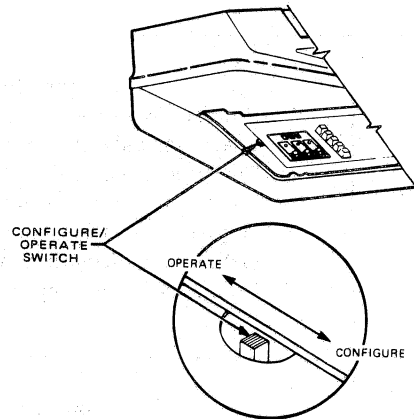

Figure 4-2. CONFIGURE/OPERATE Switch
2. Lift the terminal cover and place the CONFIGURE/OPERATE switch in the CONFIGURE (front) position (Figure 4-2).